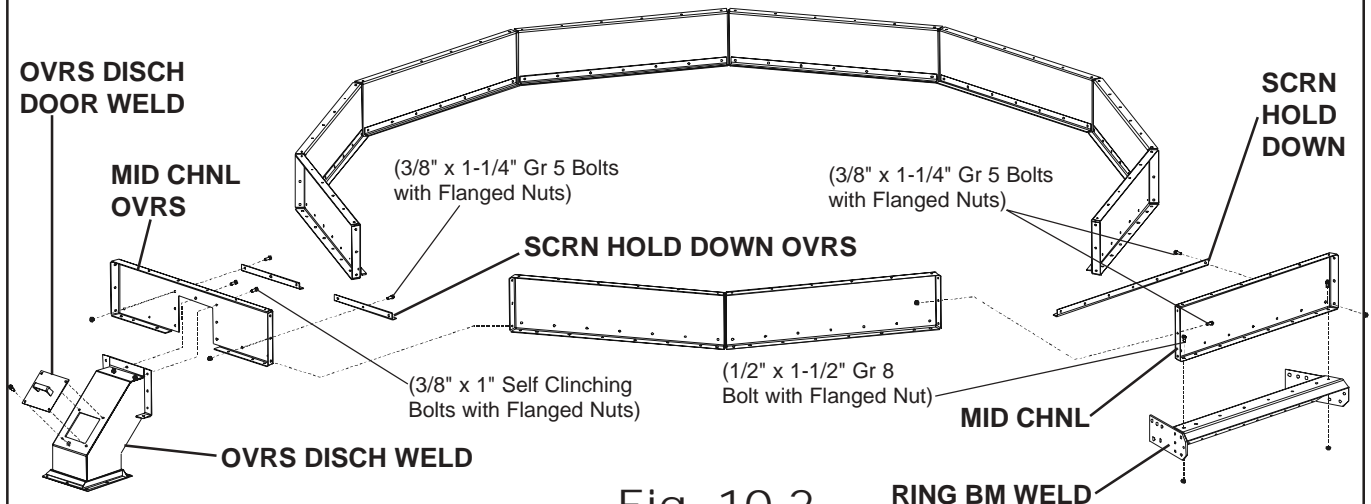
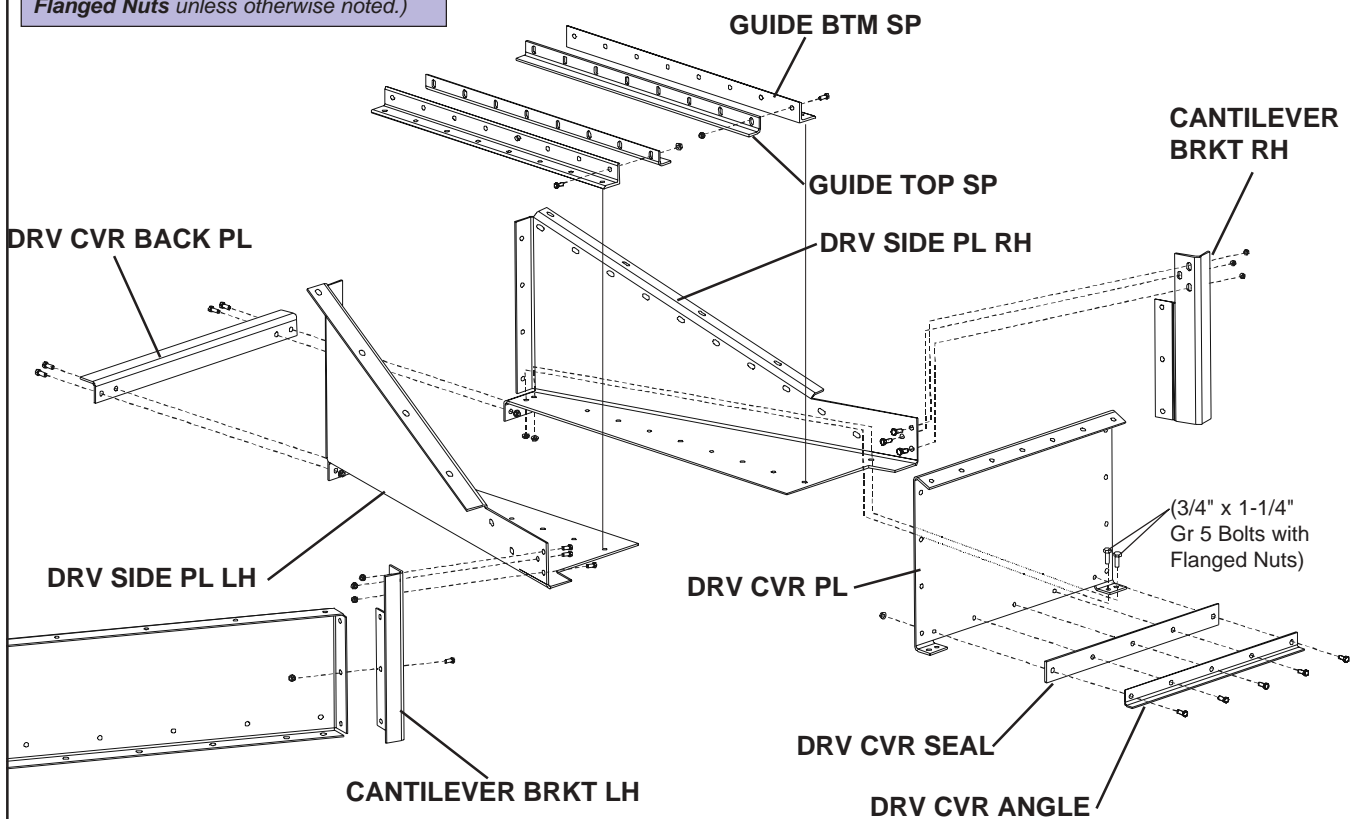

Fig. 10-2
Fig. 10-3
3. Installing the **MID CHNLs** on the Ring Beam is the next step. Seal below and between each panel with Mastic Sealant and install the Mid Channels using 1/2" x 1-1/2" Gr. 8 Bolts with Flanged Nuts through the Ring Beam. The vertical seams are connected using 3/8" x 1-1/4" Gr. 5 Bolts and Flanged Nuts. In the area of the Drive(s) install a **CANTILEVER BRACKET LH** and **RH** on the outside of the vertical seam to catch each side of the Drive Side Plates (See Fig 10-3). The orientation of left and right parts are as viewed looking toward the center of the unit. Note that the **MID CHNL OVERS** panel installs at the Overs Discharge and uses 3/8" x 1" Self Clinching Bolts with Flanged Nuts with the bolts projected to the outside. (See Fig 10-2)